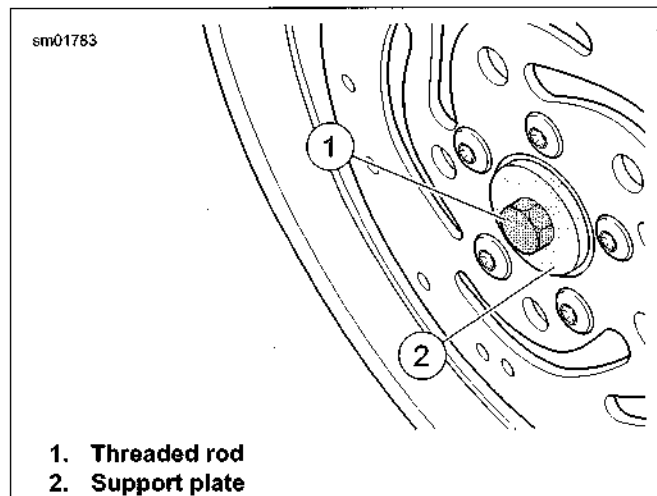

Figure 2-23. Assembling Installation Tool
- See Figure 2-23. Place threaded rod (1) through support plate (2). Insert assembly through wheel.